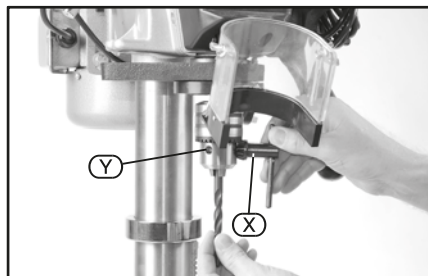

FIG.15
9.2 DRILL BIT INSTALLATION/ REPLACEMENT - FIG. 15